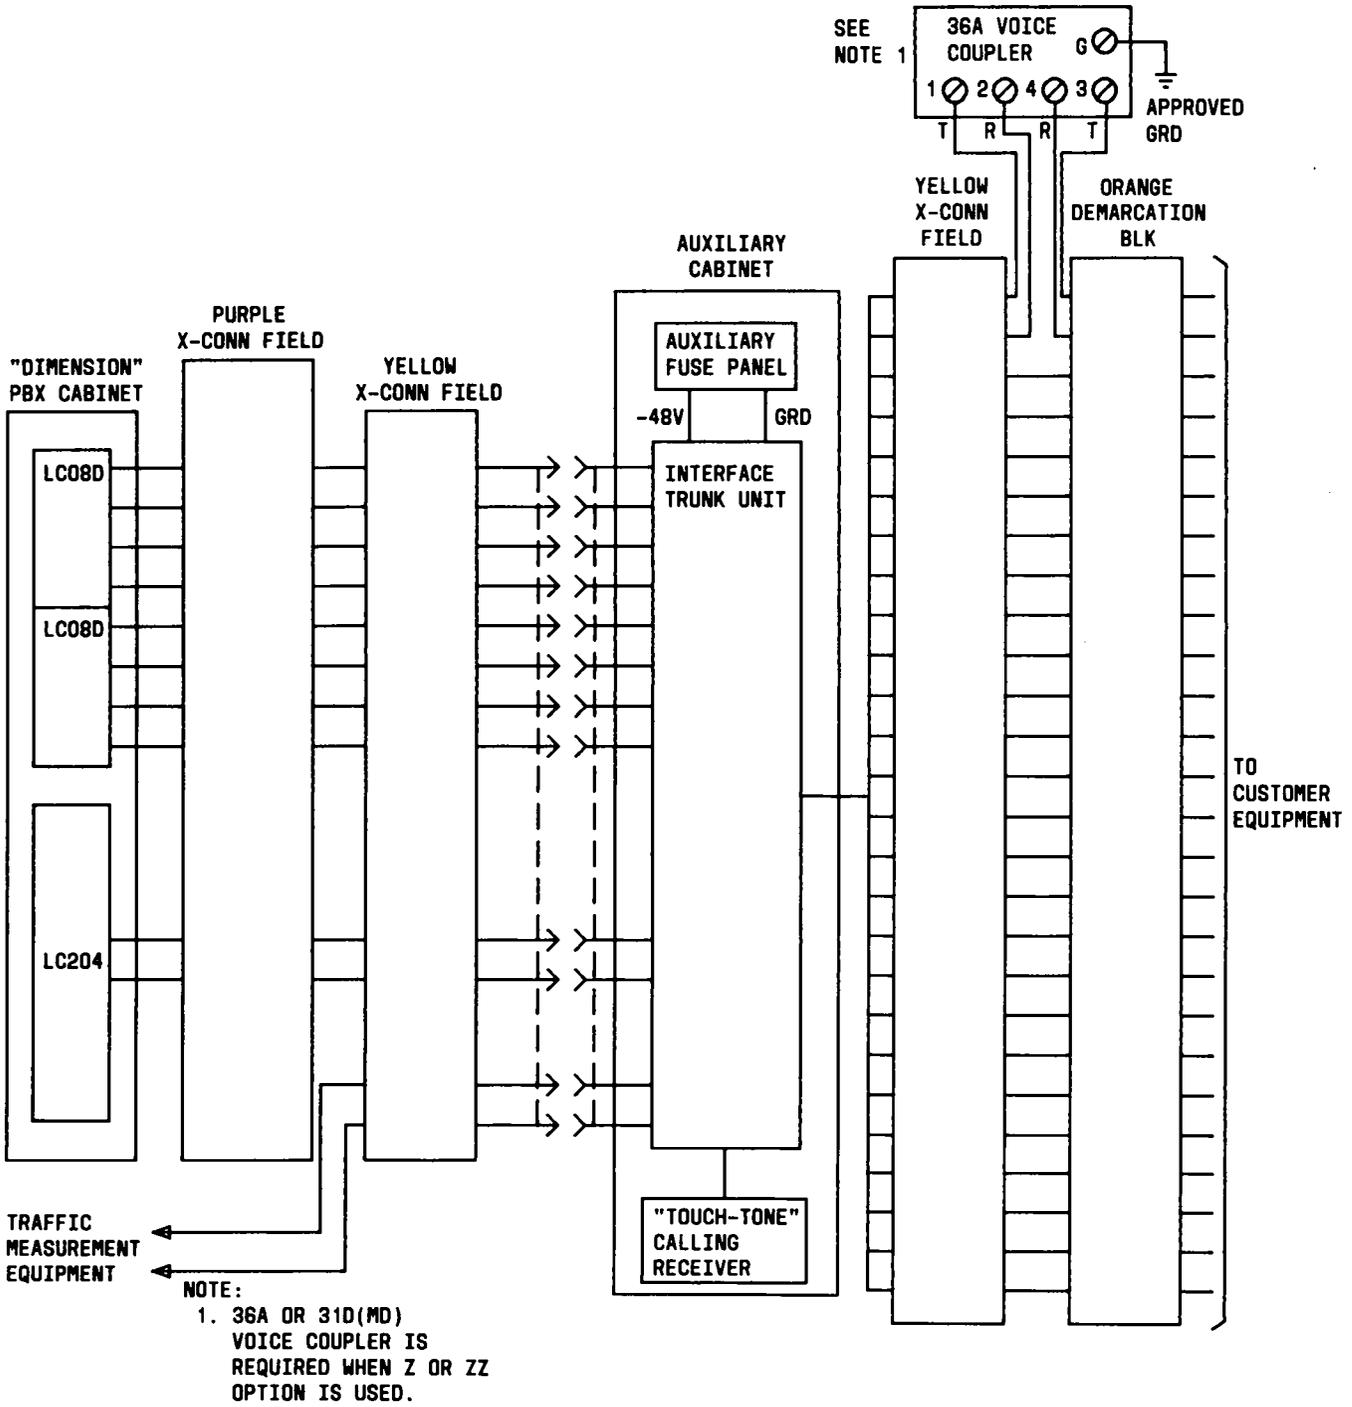

Fig. 38—Functional Diagram of Radio Paging Access Connections
**4.109** A functional diagram of the radio paging access connections is shown in Fig. 38.